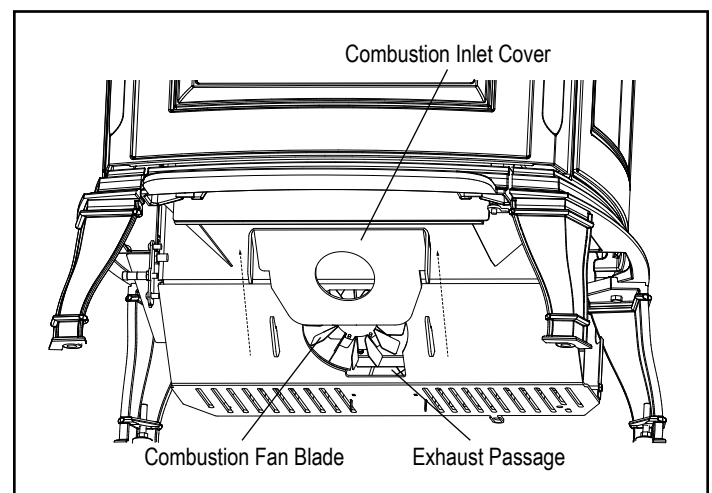

Figure 2.7
The combustion inlet cover is located behind the ash pan that must be removed to properly clean the combustion fan blade. Figure 2.7.
- Remove combustion inlet cover by pulling up on cover. This allows access to the combustion fan blade and exhaust path. Figure 2.7.
- Clean exhaust passage. Figure 2.7.